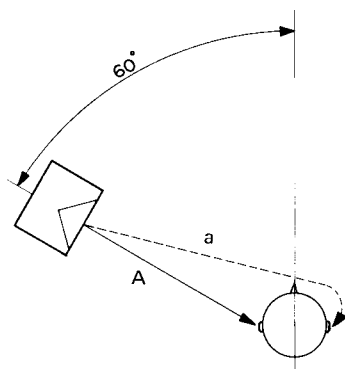

Fig. 5
Assuming that the speaker is located at 60° as in Fig. 5, the sound emitted from the left speaker reaches the left ear as shown by the solid line (A) and also enters the right ear as shown by the dotted line (a). These two signals let the listener sense the direction of the speaker as 60° . Signal (a) is delayed with relation to (A) and differs in frequency response.